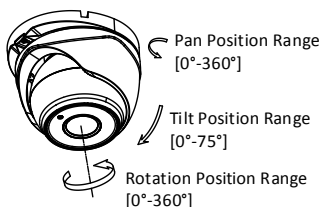

Figure 2-10 3-axis Adjustment
7. Adjust the camera according to Figure 2-10 to get an optimum angle.